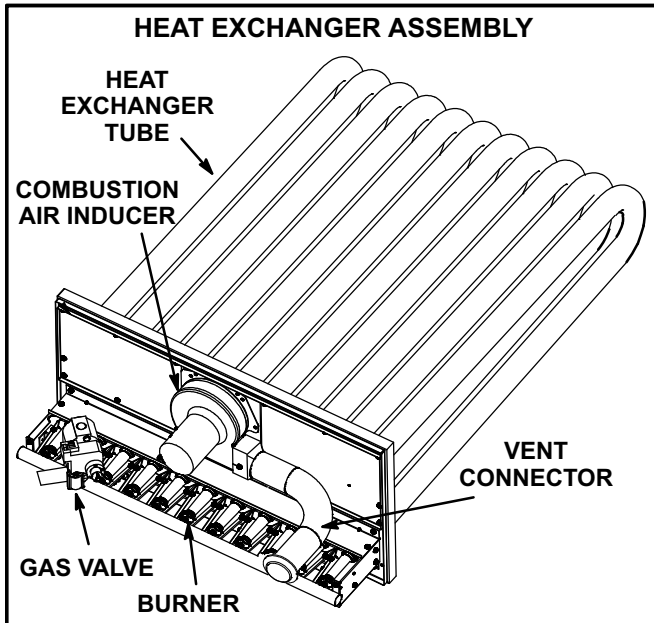

FIGURE 25
- 3- Remove and retain screws securing combustion air inducer to flue box. Remove vent connector. See figure 25.